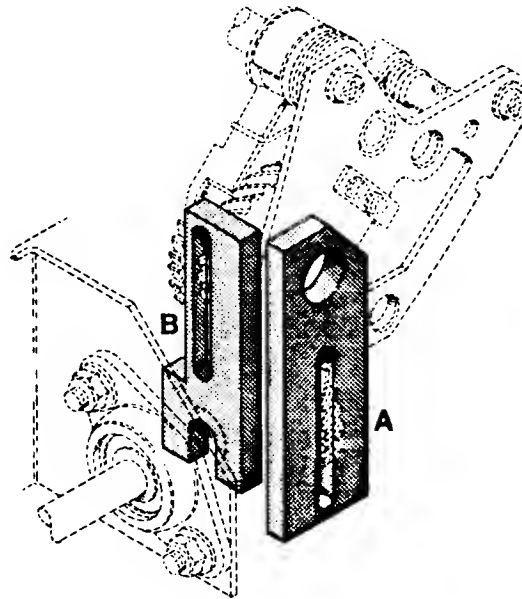

Figure 3-6. DRIVE MOTOR ASSEMBLY ADJUSTMENTS
C. ADJUSTMENTS (Figure 3-6)
4. Line Feed Clutch Helical Gear Adjustment (Figure 3-6)